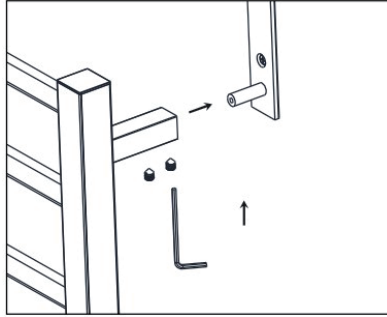

Figure 6
1. Loose the socket head screws in the two sides of the heating part, as show in figure 6.